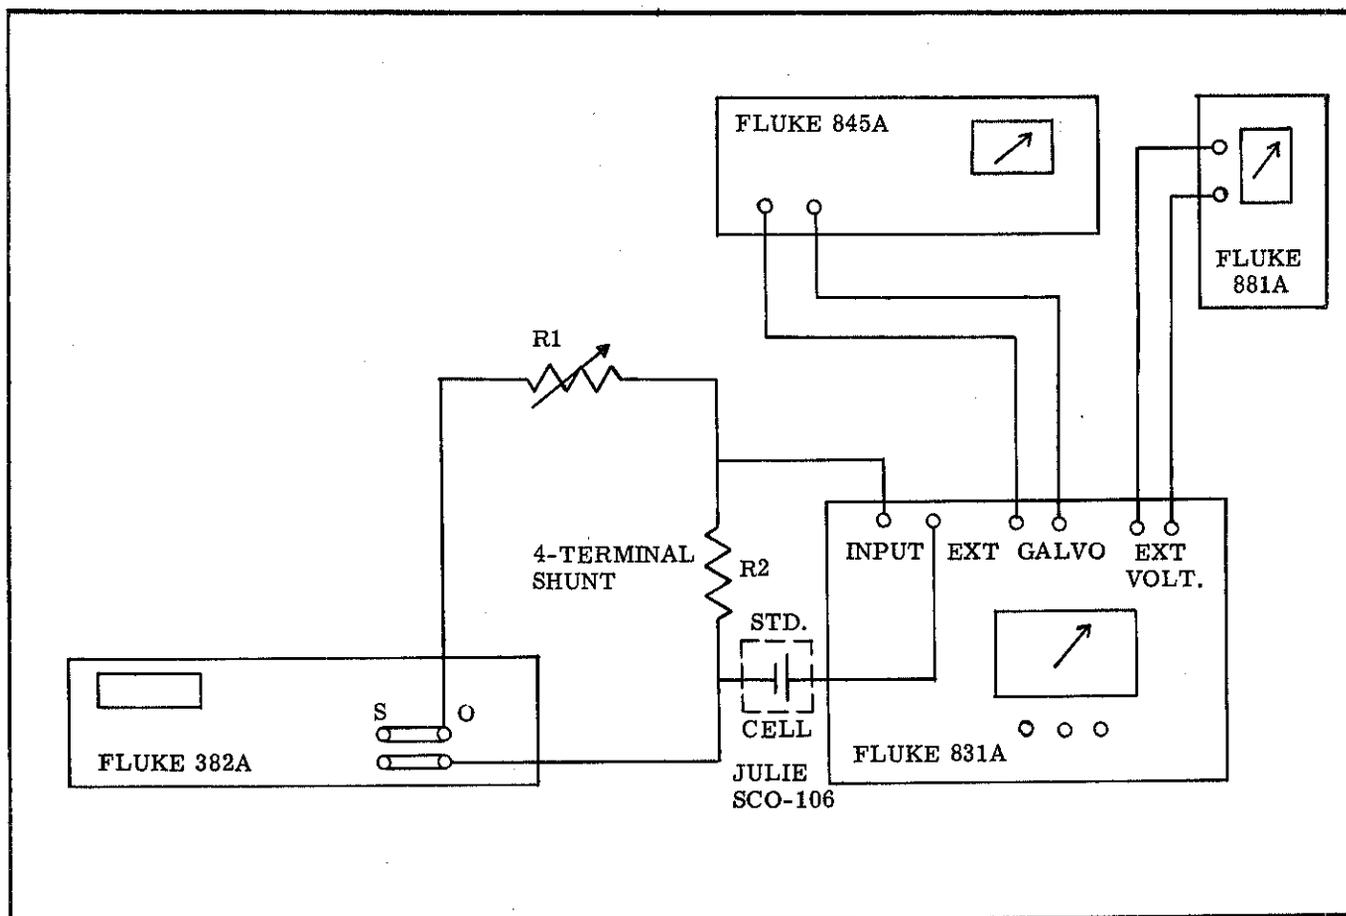

Figure 4-5. CONNECTIONS FOR LOAD REGULATION - CONSTANT CURRENT OPERATION.
(1) Connect the 382A to the Variac, and set the Variac to 100V output.
(2) Connect the test equipment as in Figure 4-5, omitting resistor R1 from the circuit. Use the 200 ohm shunt for R2. The connecting wires should be pure copper.
(3) Set the V-A switch to 5ma.
(4) Set the decade controls to zero.
(5) Set the POWER switch to ON.
(6) Set the 845A to an open position.
(7) Set the decade controls to 4.999910.
(8) Set the reference emf controls on the 831A to 19mv.
(9) Set the 845A to the 0.5V range. Increase the sensitivity of the 845A to 50uv, adjusting the reference emf controls on the 831A as necessary to maintain meter null.
(10) Vary the output voltage of the Variac from 100V to 115V. The null detector indication should change by less than ± 5 uv.
(11) Vary the output voltage of the Variac from 115V to 130V. The null detector indication should change by less than ± 5 uv.
(12) Repeat steps (9) through (11) with the shunt resistance values given in the table below.
(1) Connect the 382A to the Variac, and set the Variac output to 115V.
(2) Set the decade controls to zero.
(3) Connect the test equipment as in Figure 4-5. Use the 200 ohm shunt for R2, and the 0-10,000 ohm variable resistor for R1. The connecting wires should be pure copper.
- (4) Set the POWER switch to ON.
- (5) Set the V-A switch to 5ma.
- (6) Set the decade controls to 4.999910.
- (7) Set the 845A to the 0.5V range. Increase the sensitivity of the 845A to 50uv, adjusting the reference emf controls on the 831A as necessary to maintain meter null, with R1 set to zero. Then set the 845A to an open position.
- (8) With the 845A in an open position increase R1 from 0 to the maximum value given in the table below.
- (9) After 10 seconds, return the 845A to 50uv. The 845A should indicate within $\pm 10\text{uv}$ of null.
- (10) Perform steps (7) through (9) for each of the resistance values given in the table below. Observe the Warning in step h. (12).